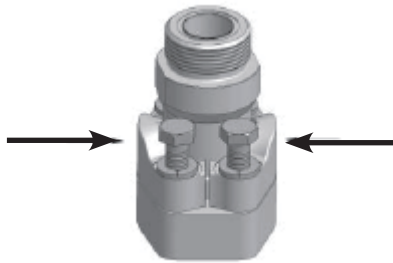

FIGURE 5-41
3. Push the flange clamps toward the flange head and screw fasteners into flange pad. Continue to screw the fasteners until their heads just meet the split flange surface (see **Figure 5-41**).